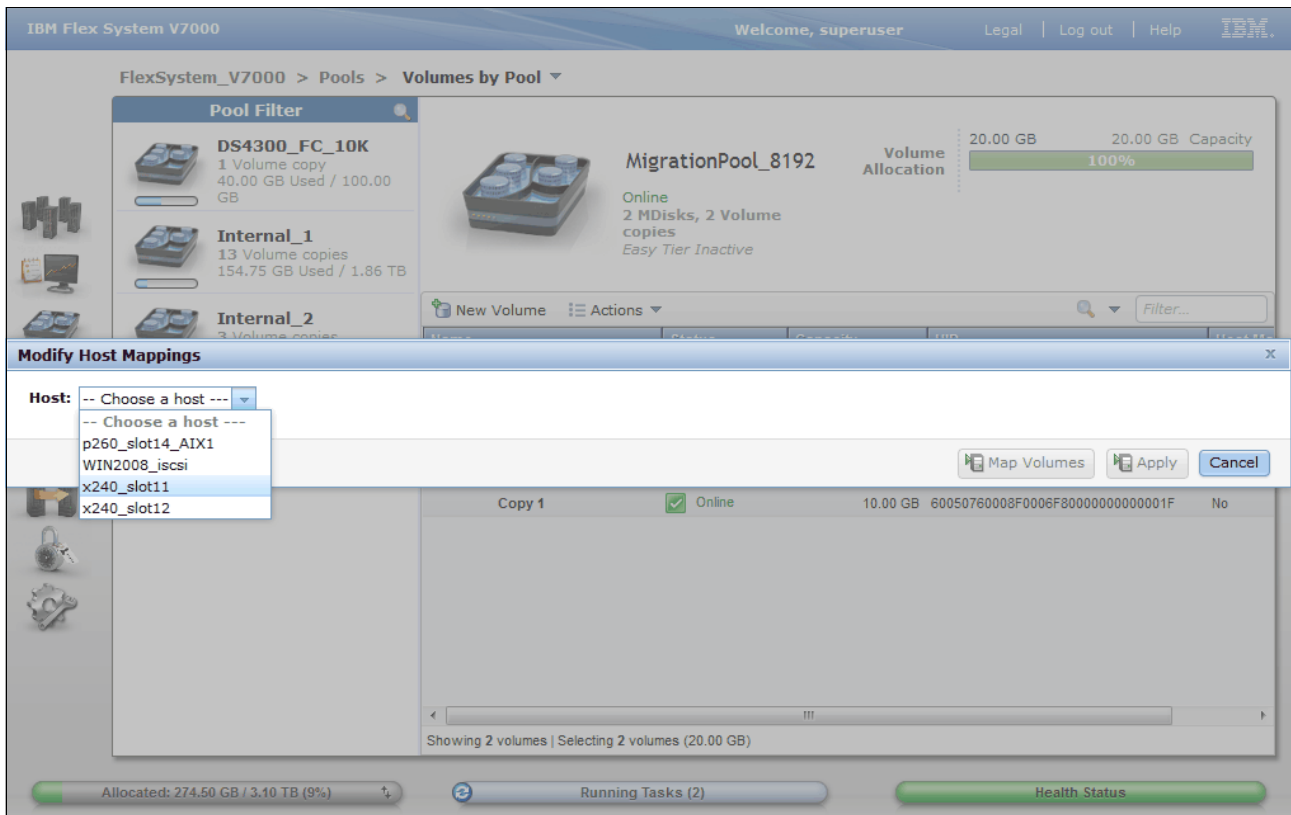

Figure 7-29 Modify Host Mappings - Choose a host
2. Figure 7-29 shows the next step in the mapping process. The wizard will display all the hosts that are currently configured on IBM Flex System V7000 Storage Node and allow us to select the appropriate host we want to map the volume.